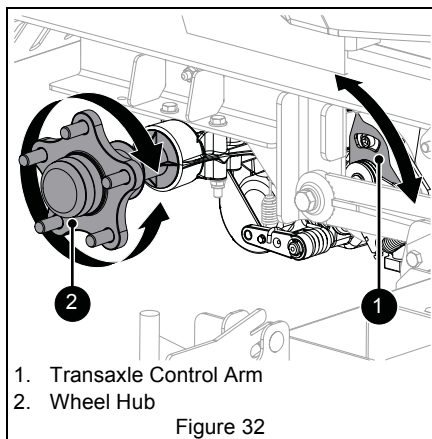

Figure 32
2. Slowly turn transaxle control arm in the opposite direction of hub rotation until hub stops. See Figure 32.